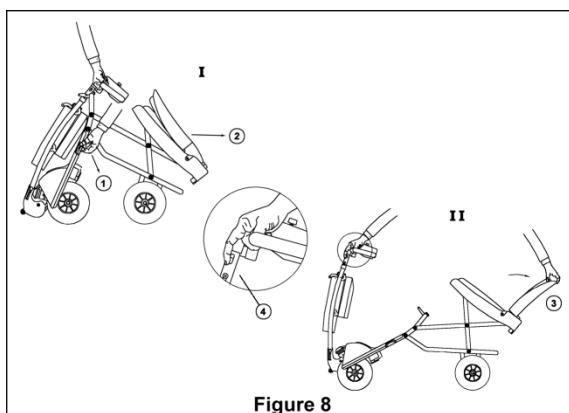

Figure 8
Step 1: Pull on the frame lock pin ring (Fig. 8/1) to release platform and rest front wheels on floor.
Step 2: Pull the seat backrest and lift it upright. (Fig. 8/2)
Step 3: Grasp top of seat backrest (Fig. 8/3) and pull column lock triggers (Fig. 8/4) to release column from platform. Pull outwards to unfold **EasyTravel** until platform and column lock into the operating position.